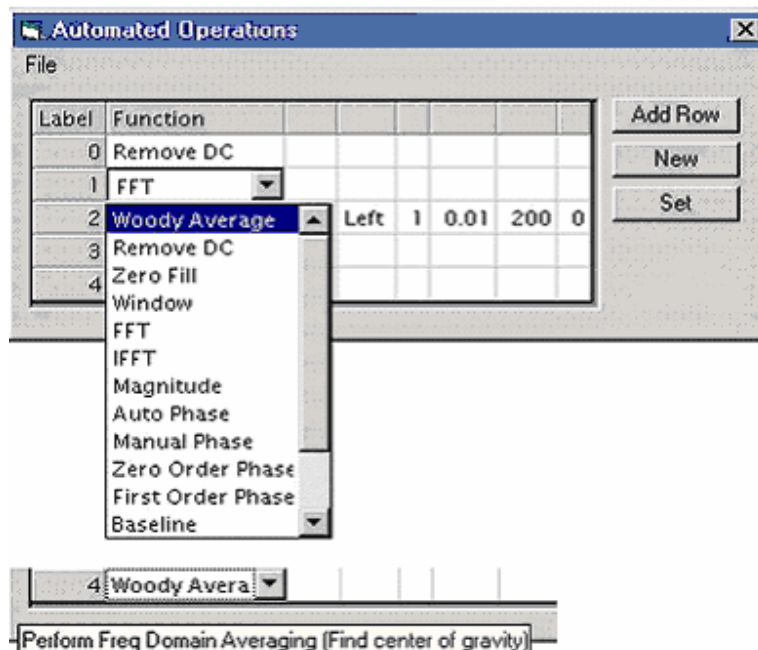

Figure 64: Automated Operations Screen — Function Select
Click on the **Sched** button to display the scheduler table shown in Figure 64. This dialog box is used with a multi-input sampling system in which samples are drawn sequentially from several different process units. Up to five process sample streams (and a grab sample) may be connected to the switching unit. The Scheduler table lets you define the sequence and content of the Scheduler. To start Scheduler operation, click the **Sched** button on the main menu bar.
3. **Click on Add Row** to add the next row. Then repeat Steps 1 and 2 for the next operation in the sequence. Refer to Figure 64 for a typical Scheduler sequence.